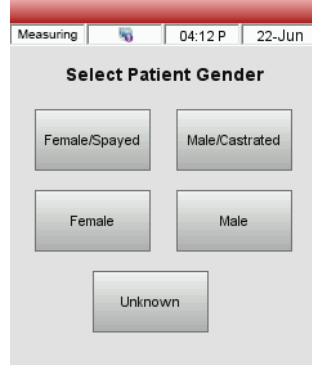

Figure 19. Measurement > Select Patient Gender screen
- Select the patient's gender (figure 19).